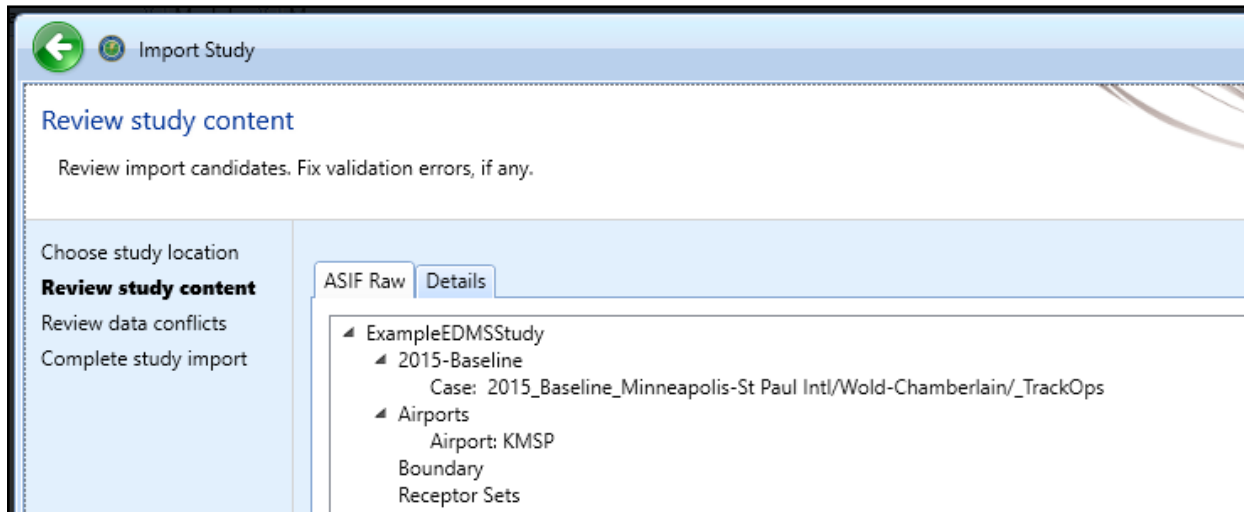
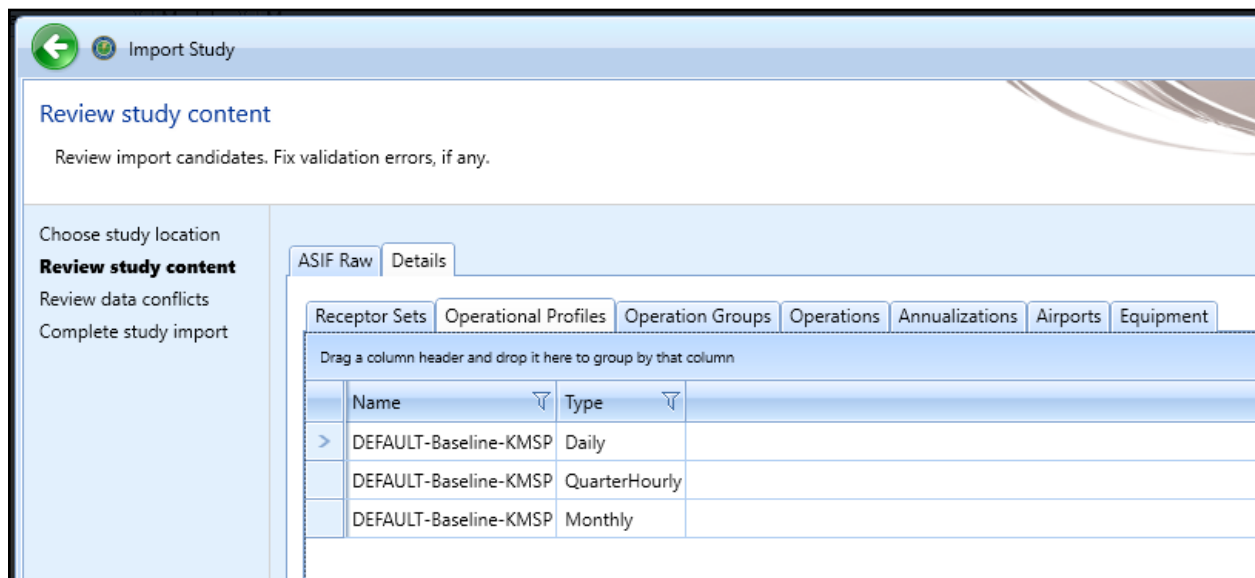

Figure 43. Review study content, ASIF Raw tab
Figure 44. Review study content, Details tab
- The *Details* tab displays a detailed view of the study content, organized by categories. (Figure 43 and Figure 44)